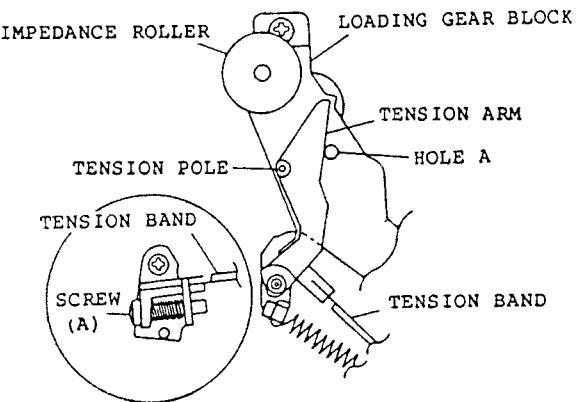

Fig. 3-8
#### 5-1. TENSION POLE POSITION ADJUSTMENT/TENSION ADJUSTMENT (Fig. 3-8)
- 2) Adjust screw (A) so that the inner flange of the tension arm is aligned with the left edge of hole A in the loading gear block at the start of tape as shown in Fig. 3-8.